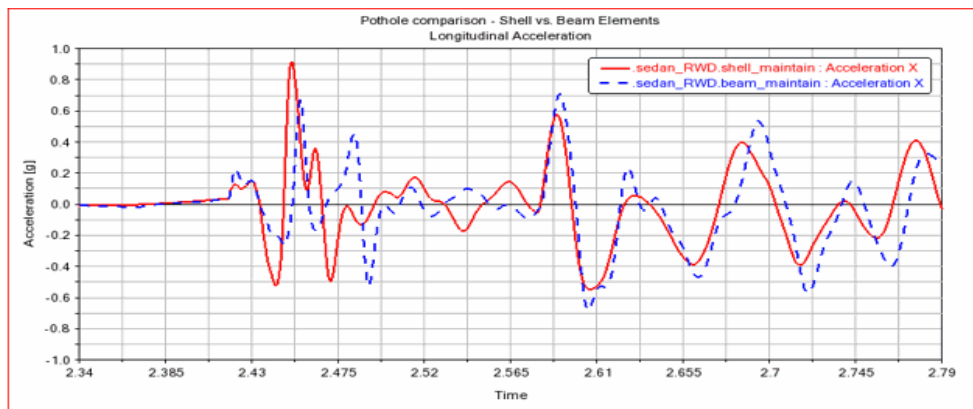

Figure 12 Chassis Longitudinal Acceleration
4. Examine the plots to determine the effects of the lower control arm representation. Figure 12 shows one of the plots.